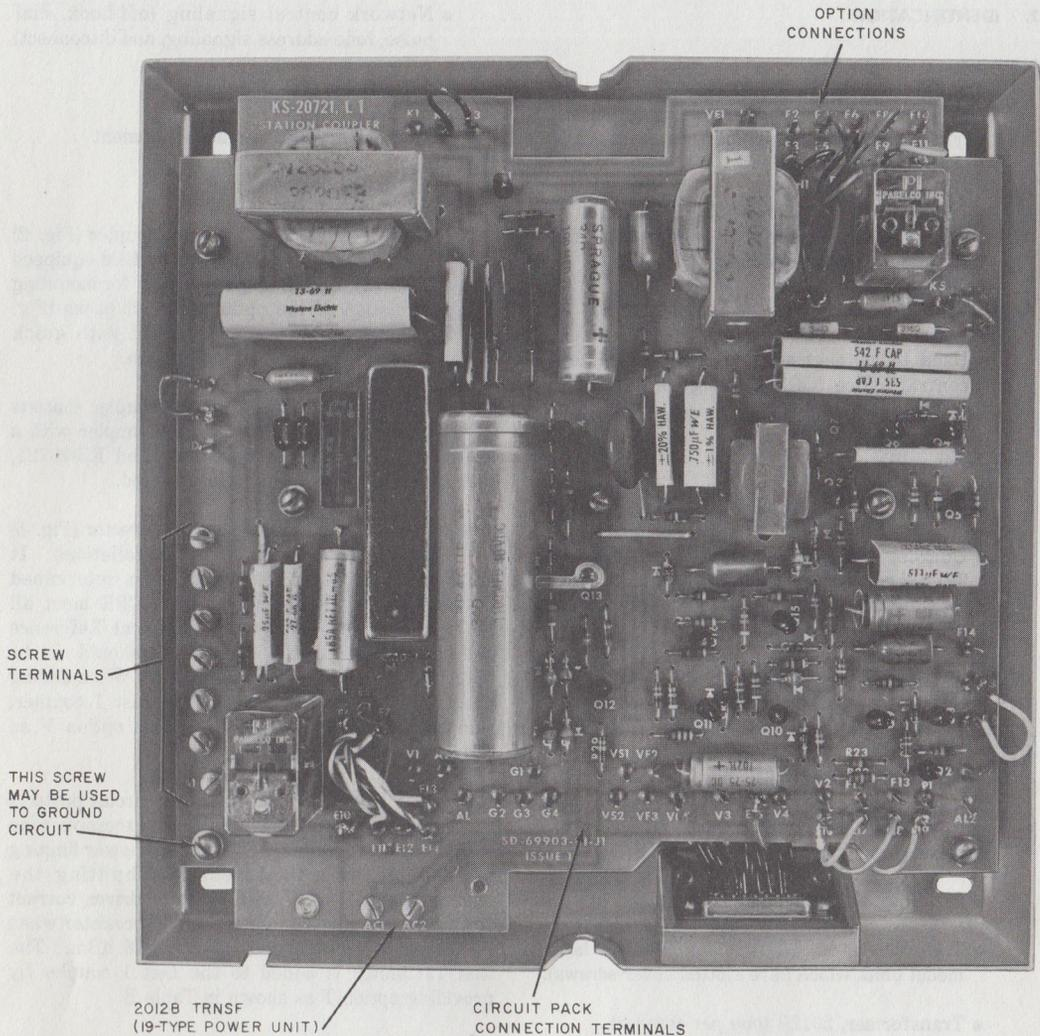
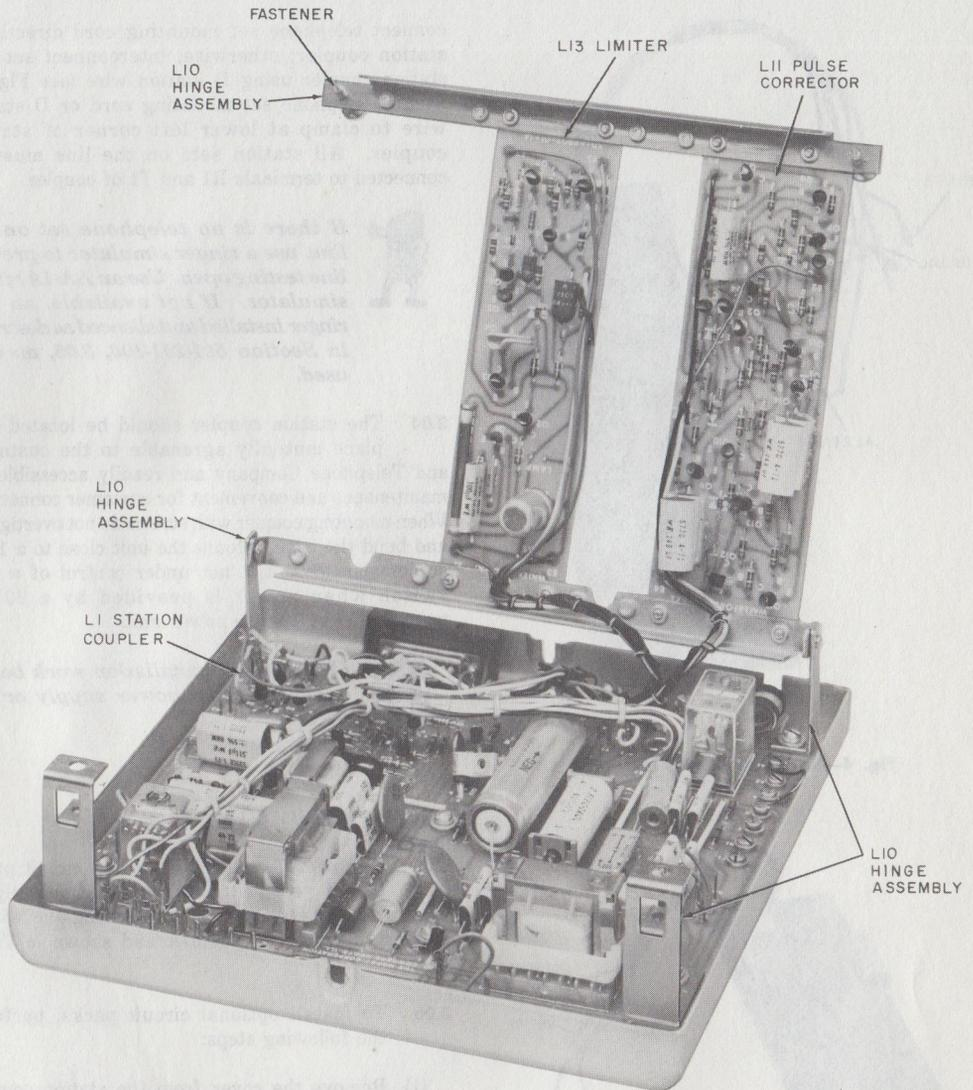

Fig. 2—KS-20721, List 1 Station Coupler, Cover Removed
Fig. 3—KS-20721 Station Coupler Showing Optional Circuit Packs Mounted
Assembly, Hinge, KS-20721, L10 (Fig. 3)
2.02 The KS-20721, List 1 station coupler (Fig. 2) is the basic unit designed to be field equipped with a KS-20721, List 10 hinge assembly for mounting any combination of the optional circuit packs (Fig. 3). The circuit packs are equipped with quick connect connectors for easy installation.
- (1) Remove the cover from the station coupler using the KS-19192, List 1 tool or screwdriver.
- (2) Attach KS-20721, List 10 hinge assembly to the four corner screws mounting the List 1 board. Refer to Fig. 3.
- (3) The installer can mount the circuit packs on the internal mounting frame formed by the hinge assembly. Place board in correct position on frame (refer to Fig. 3 or cover label) and